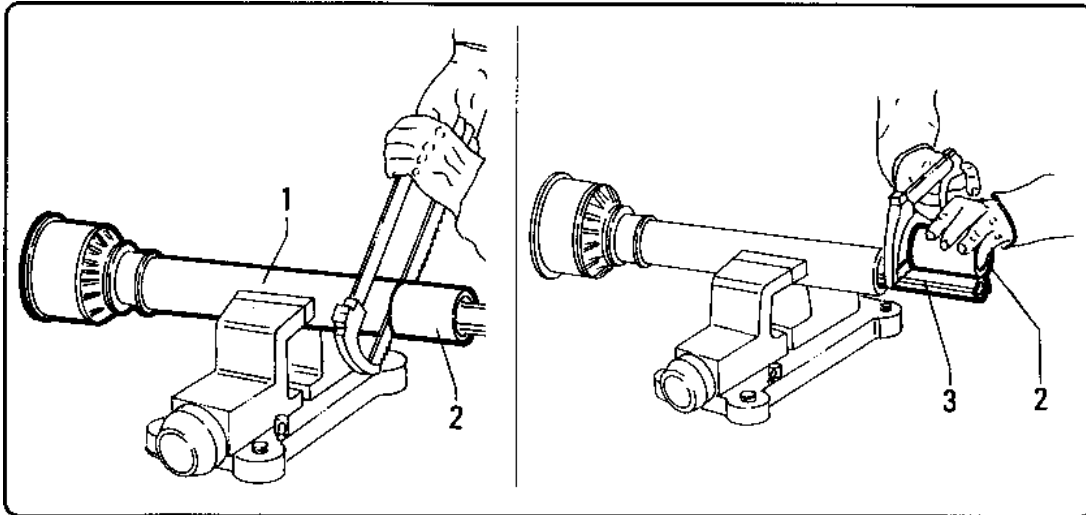

fig. 4.3.2
- First cut shield "1" fig. 4.3.2 and, use part "2" as a reference to cut the splined shaft.